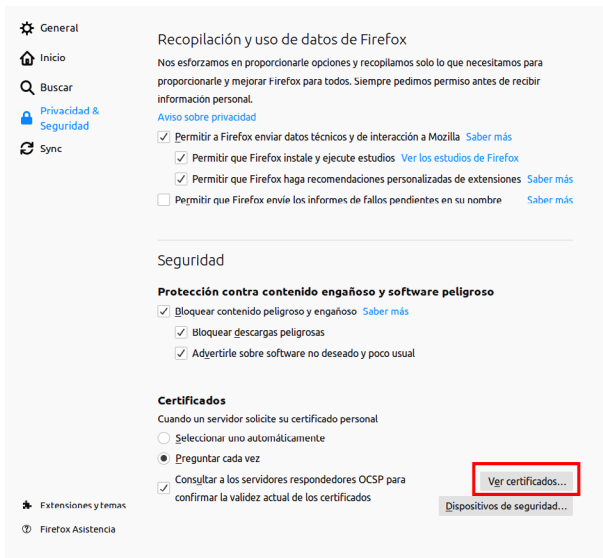

Fig. 16. Firefox 'Privacy & Security' menu
- Once this step is completed, the certificate will have been imported correctly. Start the browser to confirm it. In 'Preferences', click on the left-hand side menu to navigate to 'Privacy & Security'. Navigate to the end of the tab until you find the section of 'Certificates'. Click on 'View certificates...' (Fig. 16).